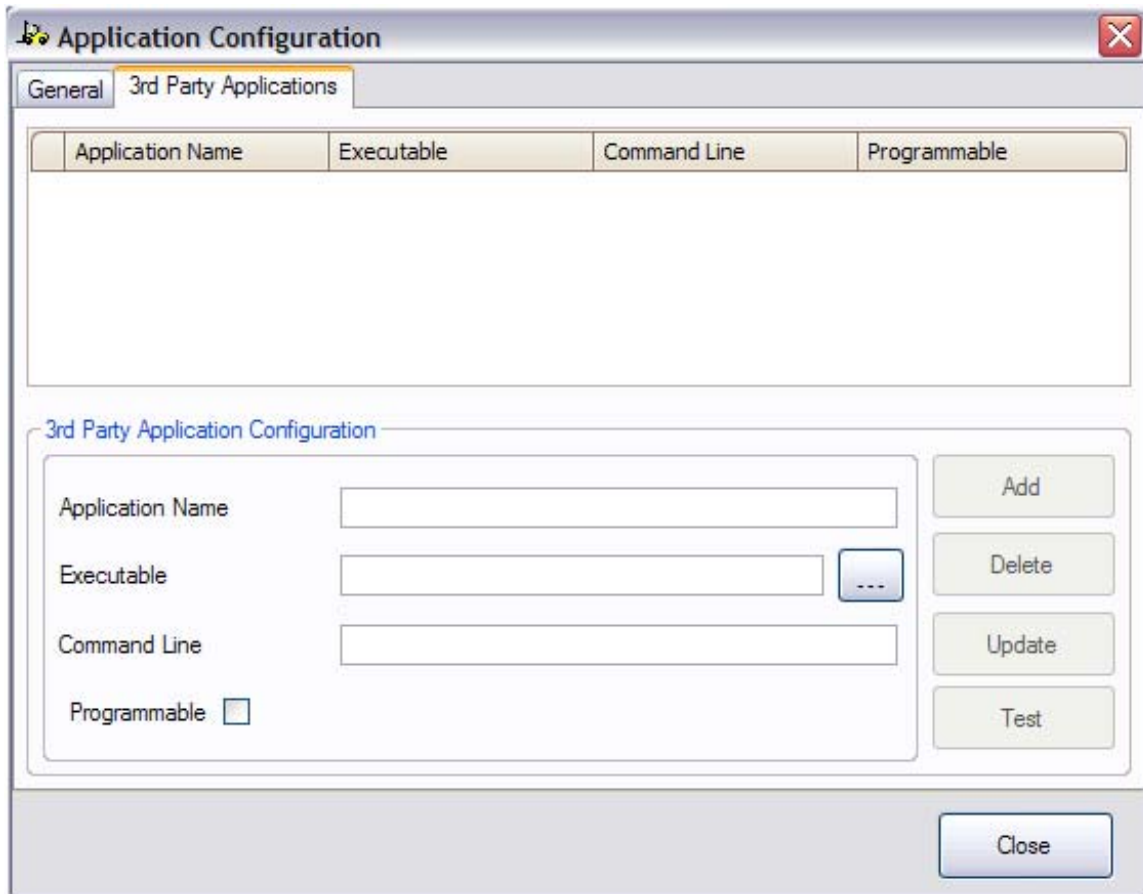

Figure 7: Active 3rd Party Application tab in the Application Configuration window.
2. Select the **3rd Party Applications** tab. This displays the options available in the 3rd Party Application table, as depicted in Figure 7: